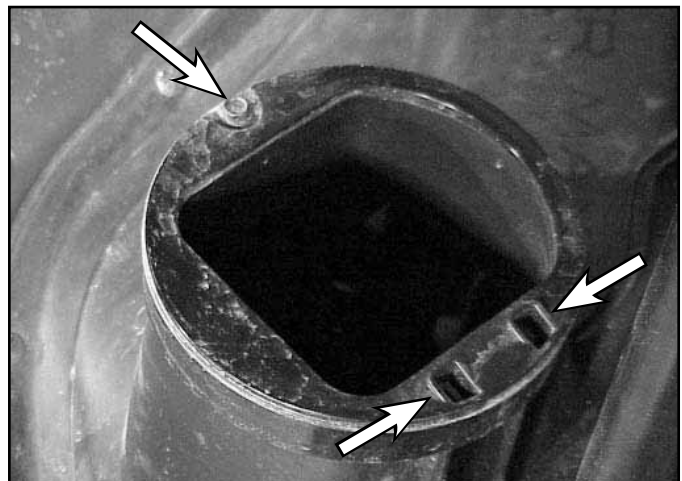

Fig 213
8. The last chute component is the chute guide. It is attached to the auger cover with one screw in front and tabs on the rear (Fig. 213).